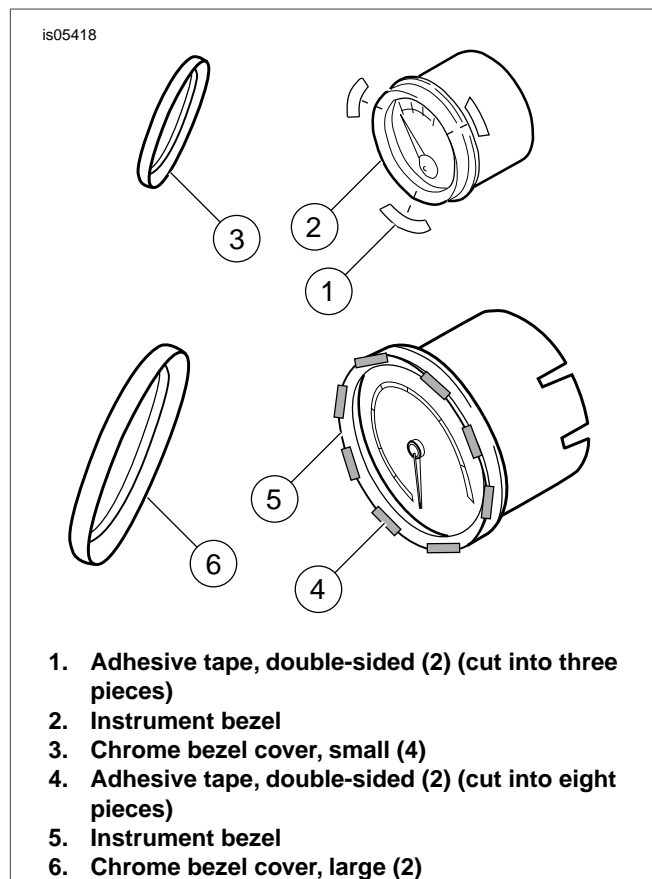

Figure 1. Install Instrument Bezels
1. See Figure 1. Cut tape (1) into six equal pieces.
2. Remove paper liner from one side of tape and apply three pieces tape (spaced equally) to the instrument bezel (2). Press firmly.
4. Position instrument bezel cover (3) over gauge and press firmly into place.
1. See Figure 1. Cut tape (4) into sixteen equal pieces. Use eight pieces for each bezel cover.